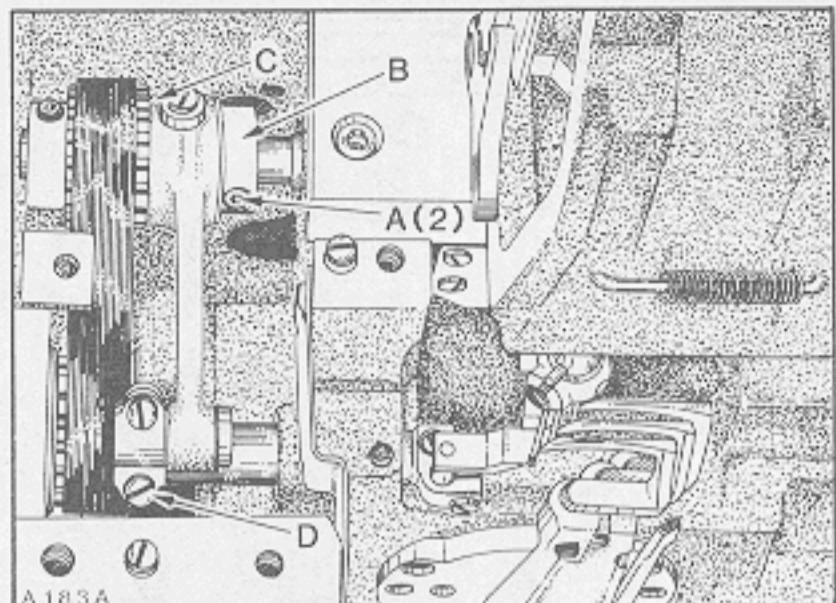

Fig.14
If additional front to rear adjustment is required to maintain needle guard in a horizontal position, loosen screw (D, Fig. 14) in pivot link which allows needle guard shaft to be rotated. Be sure to take up thrust, by exerting pressure against needle guard holder to the left and pivot link to the right, when tightening screw (D).